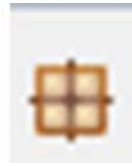

Figure 3-15: RTL Export Icon
- Click the **RTL Export** icon on the GUI toolbar (Figure 3-15)